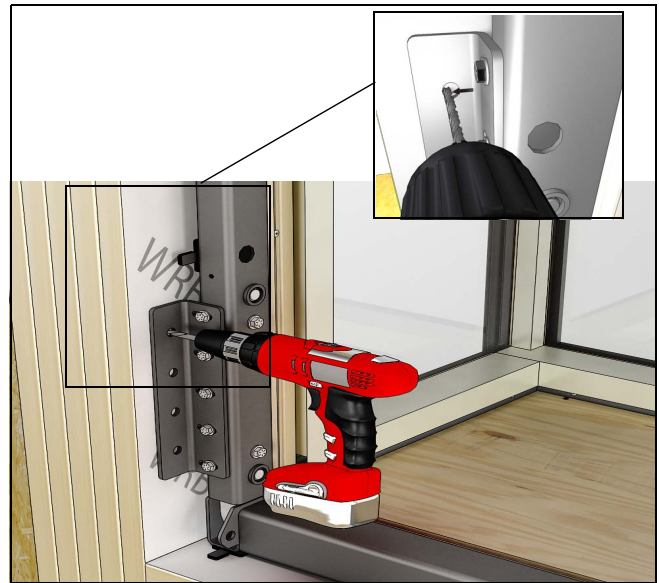

Figure 24
2. Using a 5/16" (8) drill bit and the installation bracket as a guide, pre-drill for lag bolts. Slide Installation brackets tight into RO. Pre-drill with offset close to the inside of the RO in bracket. See Figure 24.